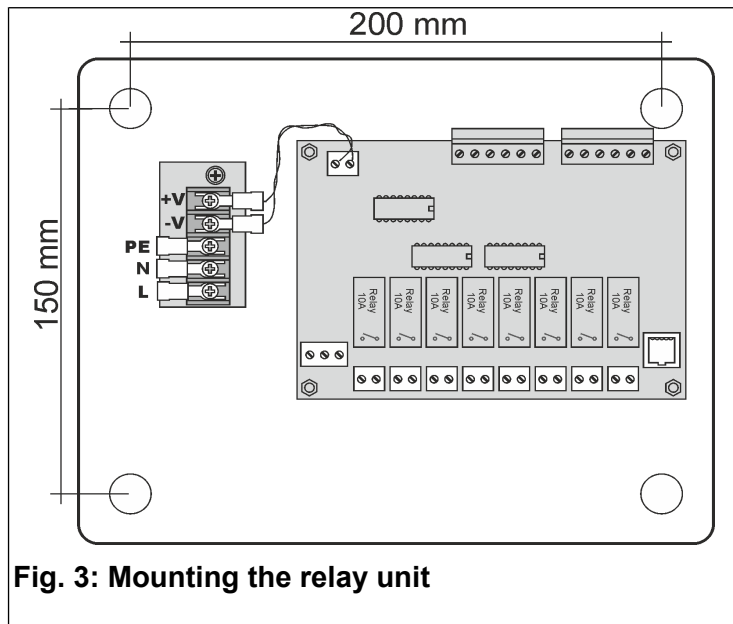

Fig. 3: Mounting the relay unit
To mount the unit (Fig. 3):
- Fasten the relay unit via the 4 holes at the bottom (Fig. 3).
Connect the grounding conductor to the appropriate fork terminal provided, as indicated in Fig. 3, suitable for cables with cross sections of 0.5-1.5 mm².